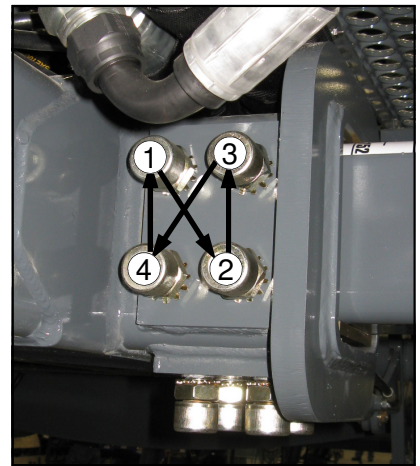

FIG 7.19-2
2. Using an “X” pattern (fig. 7.19-2), verify that current torque on each tread adjust bearing bolt is equivalent to the last check from 100 hours previous.